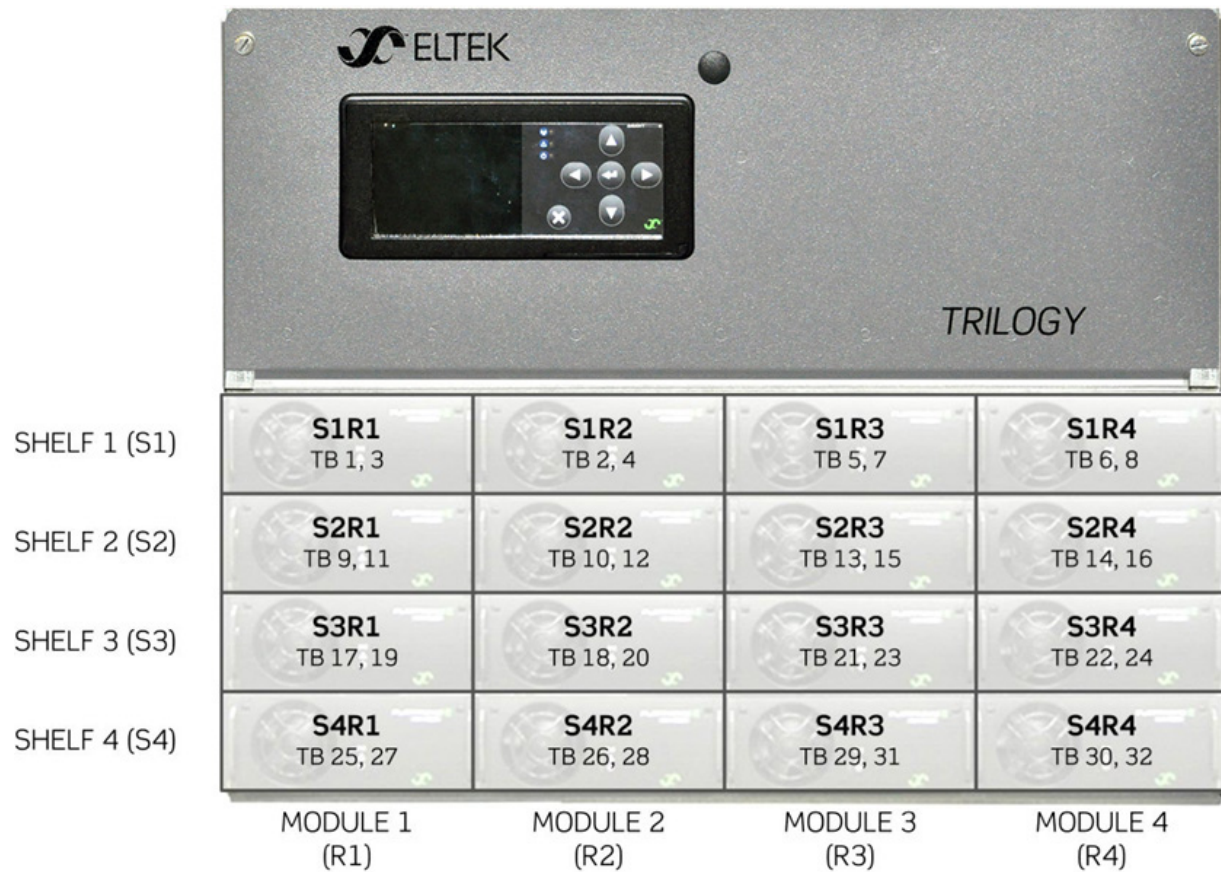

Figure 15 - Terminal Block (TB) Assignments, Individual-Feed
Terminal blocks are labeled numerically and given a module slot assignment. The module slot is a character code: “S” means “shelf” and “R” means “rectifier slot”. (Example: **S1R1** represents Shelf 1, Rectifier slot 1.) The input lines are arranged in pairs to facilitate optional dual-feed input. See Figure 15 for the terminal block (TB) assignments for each rectifier slot.